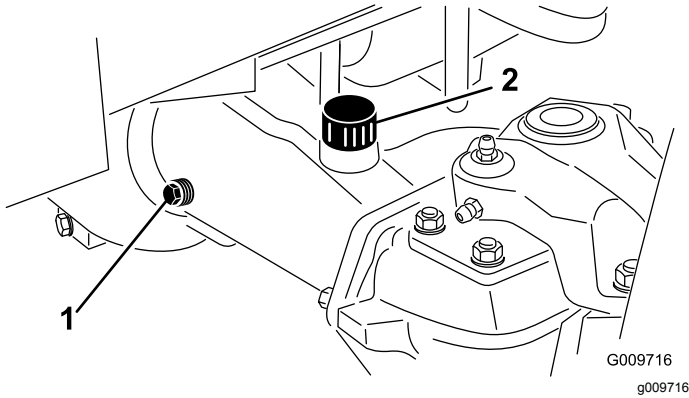

Figure 84
2. Remove a check plug from 1 end of the axle and ensure that the lubricant is up to the bottom of the hole (Figure 84).